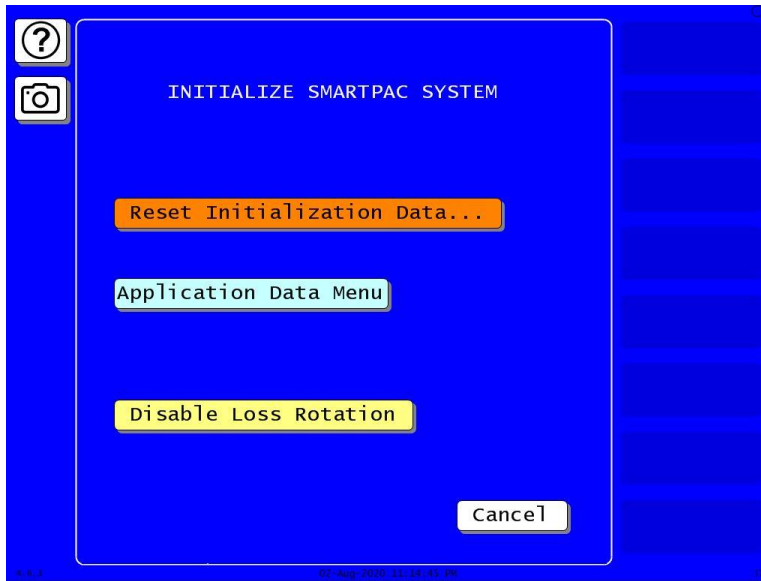
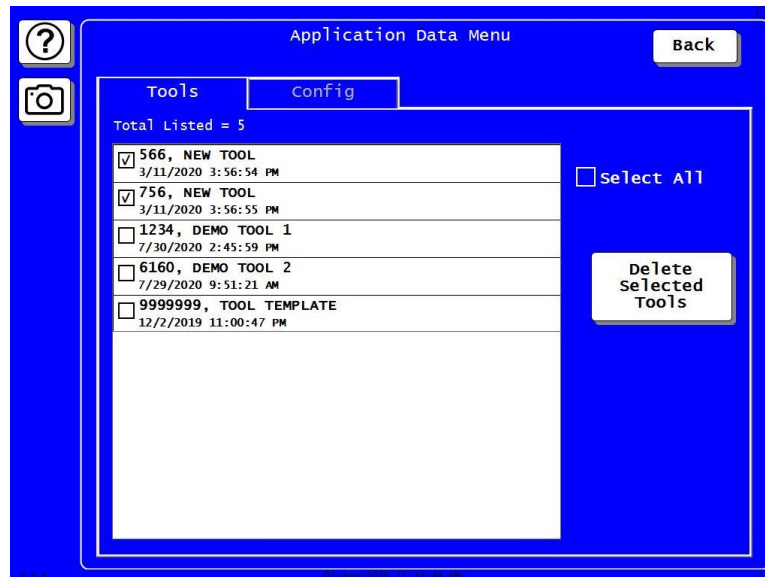

Figure 3-29. Initialize SmartPAC System Screen
Figure 3-33. Application Data Menu, Tools
1. In the Initialization screen, press SYSTEM INIT. The Initialize SmartPAC System screen appears, Figure 3-29.
1. In the Initialize SmartPAC System screen, Figure 3-29, page 125, press Application Data Menu. The Application Data Menu screen appears, Figure 3-33.